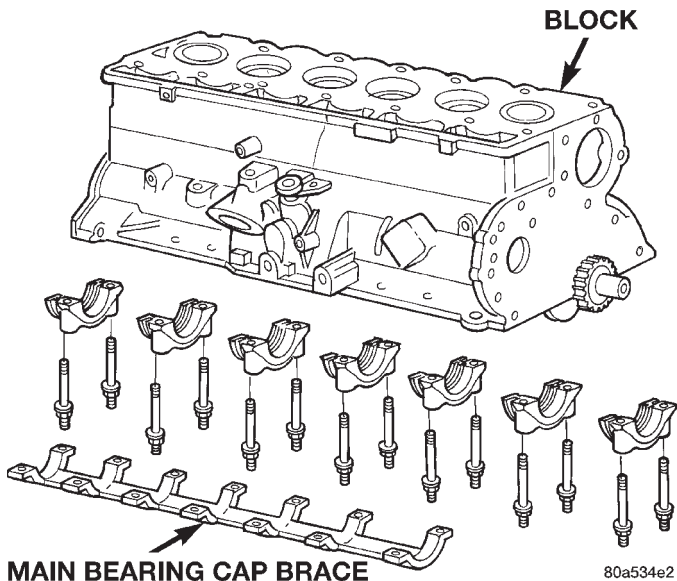

Fig. 48 Main Bearing Caps and Brace.
- (1) Disconnect negative cable from battery.
- (2) Remove the spark plugs.
- (3) Raise the vehicle.
- (4) Remove the oil pan and oil pump.
- (5) Remove main bearing cap brace (Fig. 48).